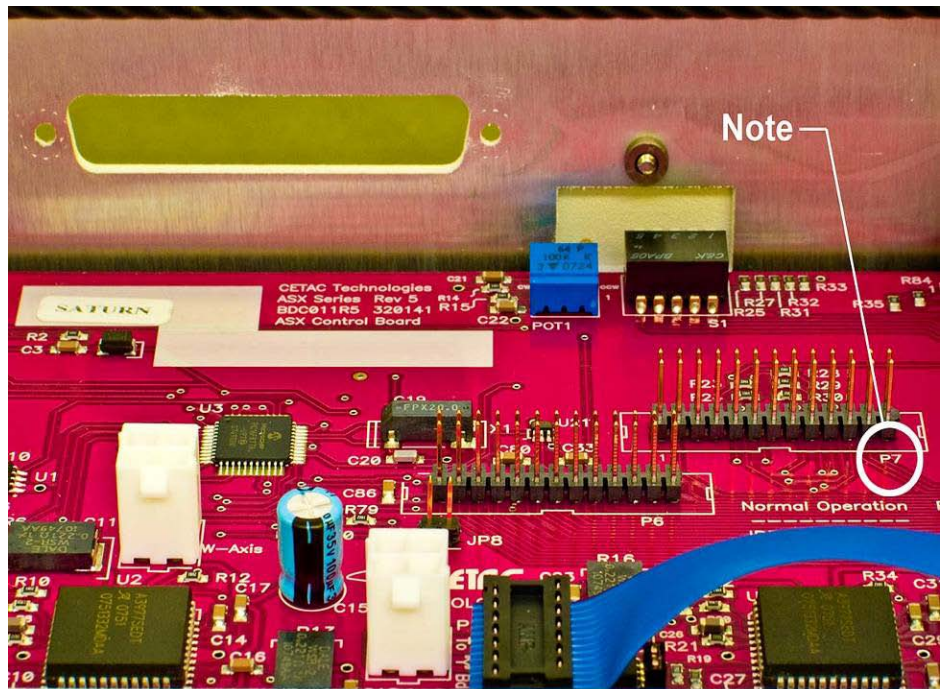
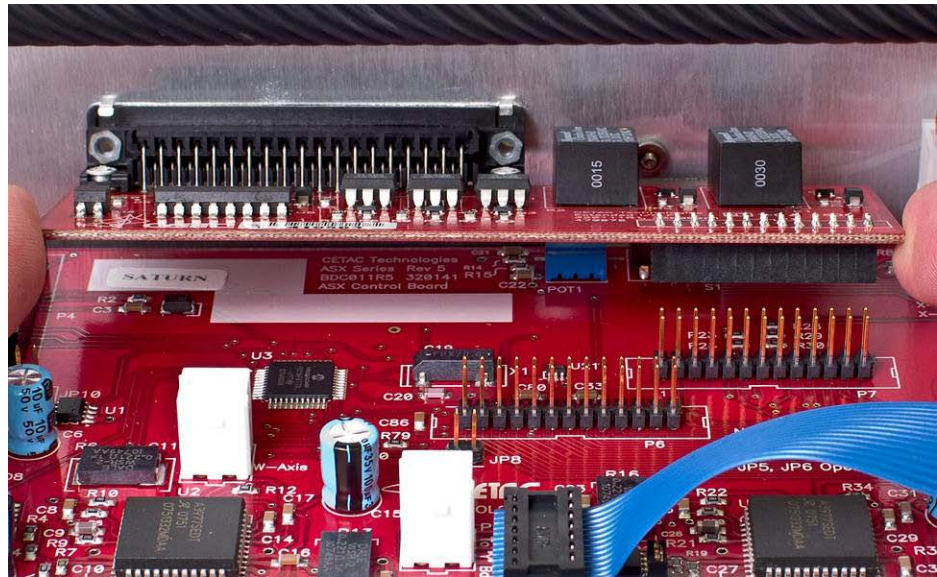
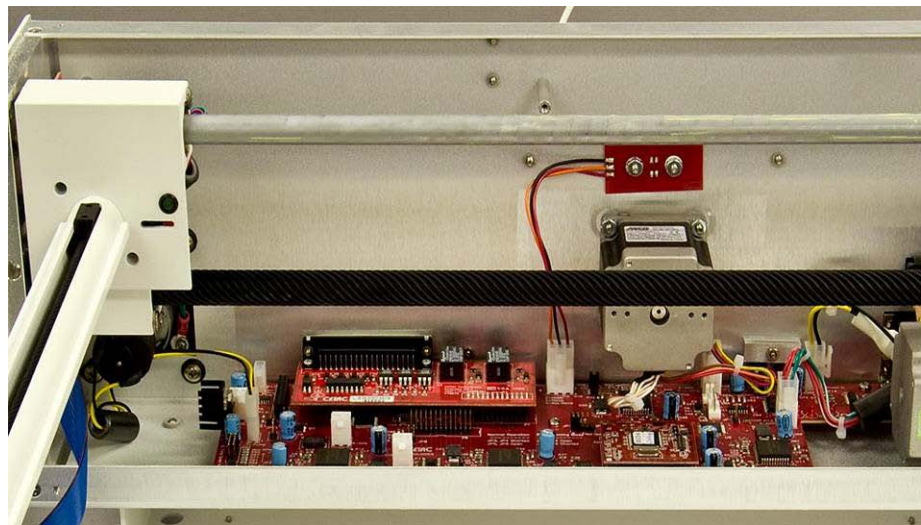

Figure 1-22 Note the location of the pin array marked “P7” utilized to mate to the I/O board (ASX-520).
Figure 1-23 I/O board being placed into position to mated to the main board pin array (ASX-520)
Figure 1-24 Main and Daughter board installed (ASX-520).
3. Carefully install the daughter board so that the 37-pin female auxiliary connector inserts into the opening at the rear of the autosampler case, while at the same time the pins of the main board (denoted by the designation “P7” clearly marked on the main board at the array of pins as shown in Figure 1-22) are inserted fully into the socket of the daughter board connector (Figure 1-23). Use caution to ensure that pins mate fully and correctly to the socket (Figure 1-24 shows the I/O board installed into the correct position).